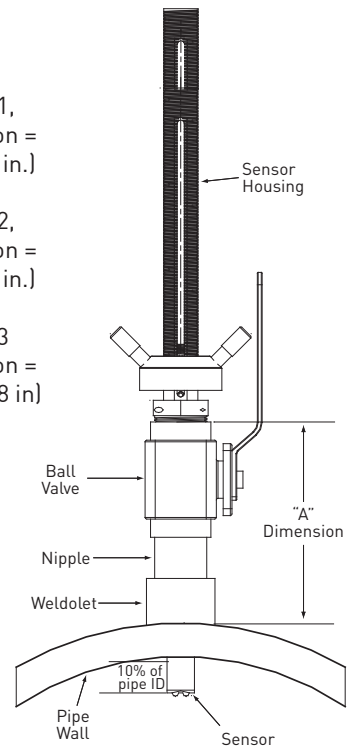

Fig. 2
- For retrofit installations, the ball valve must be at least a 1 1/4 in. (or 1 1/2 in. for 2552-3) valve. The stack height, or "A" dimension (see Fig. 2), is the overall height from the top of the pipe to the top of the ball valve.
- For new installations, Signet recommends a 1 1/4 in. or 1 1/2 in. full port ball valve, a short nipple and a weldolet (threadolet). The stack height or "A" dimension (see Fig. 2) is the overall height from the top of the pipe to the top of the ball valve before the sensor is connected.